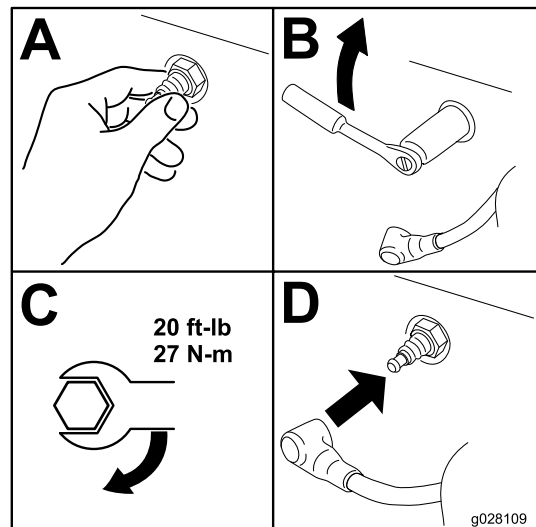

Figure 42
1. Install the spark plug(s) as shown in Figure 42.